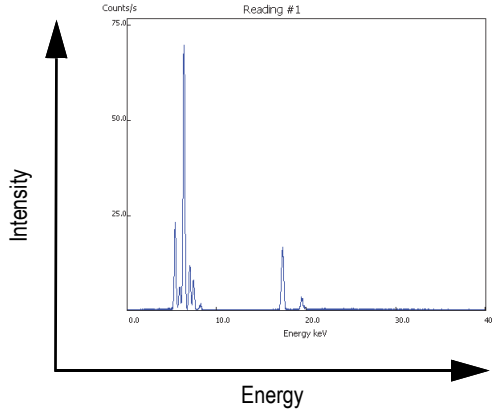

Figure C-2 Typical spectrum plot: Energy versus Intensity
Typical spectra for energy dispersive X-ray fluorescence (EDXRF) spectrometry appear as a plot of Energy (E) versus the Intensity (I) [see Figure C-2 on page 126].